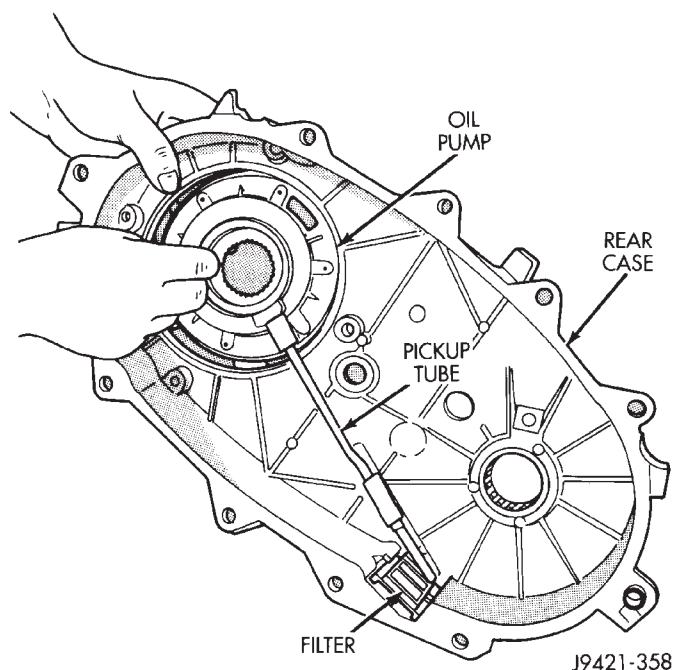
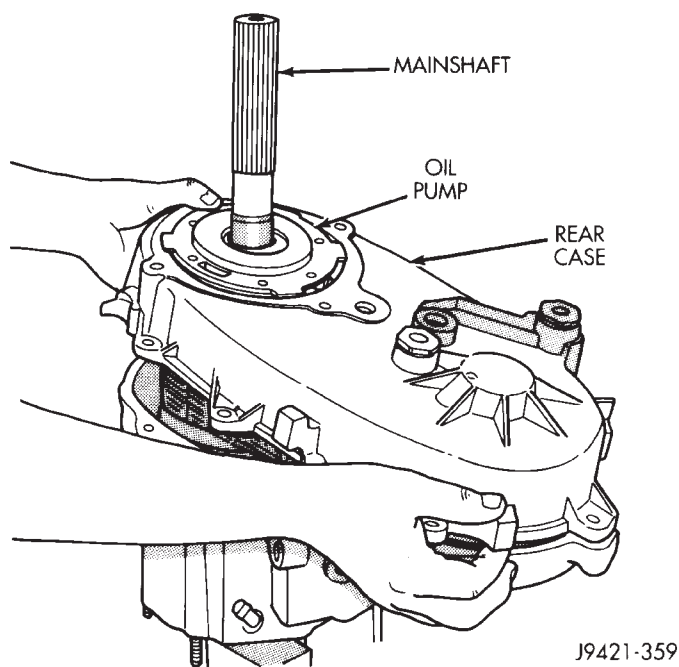

Fig. 96 Positioning Oil Pump In Rear Case
Fig. 97 Rear Case And Oil Pump Installation
(3) Insert oil pickup tube in oil pump and position pump in rear case (Fig. 96).
(4) Apply bead of Mopar® Gasket Maker, or equivalent, to mating surface of front case. Keep sealer bead width to maximum of 3/16 inch. Do not use excessive amount of sealer as excess will be displaced into case interior.
(5) Align oil pump with mainshaft and align shift rail with bore in rear case. Then install rear case and oil pump assembly (Fig. 97). Be sure oil pump and pickup tube remain in position during case installation.
(6) Install 4-5 rear case-to front case bolts to hold rear case in position. Tighten bolts snug but not to specified torque at this time.